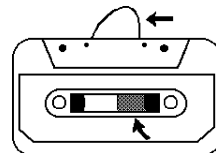

Fig.1
- Check that there are no loose layers of tape visible through the cassette center window (see Fig. 1). Take up any loose layers, using a pencil or hexagonal barrelled ballpoint pen, before inserting the cassette into the machine (see Fig. 2).